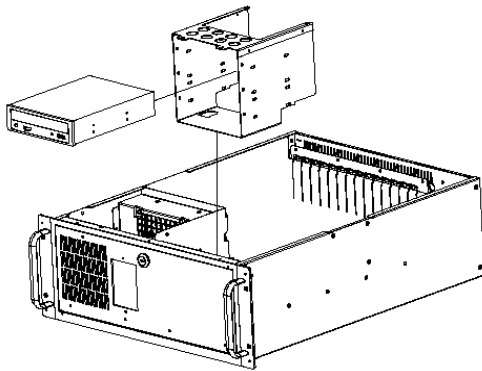

Figure 2-14. Installing a 5.25" Device
7. Lift the drive bay up and remove it from the unit. See Figure 2-14 and 2-15.